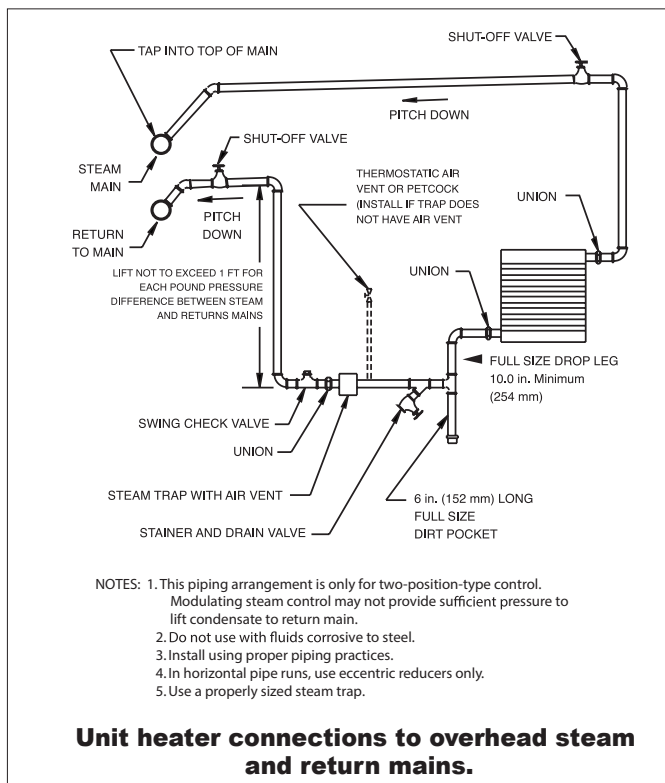
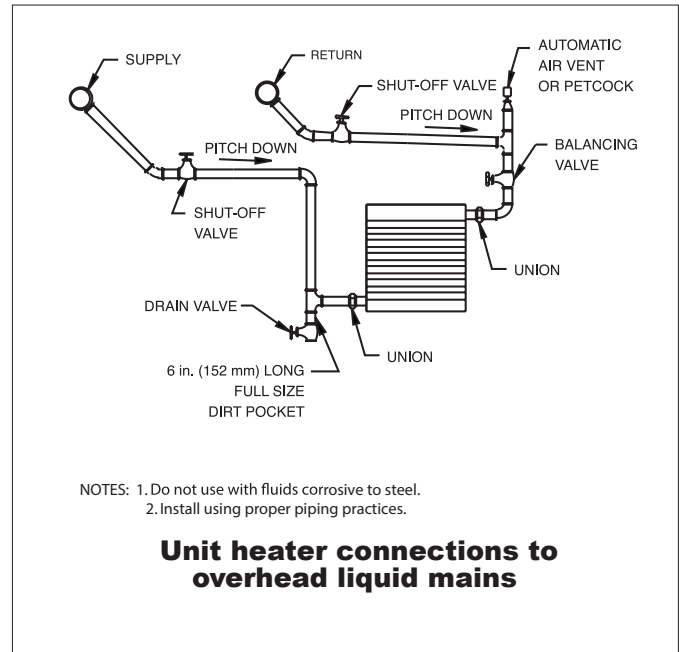
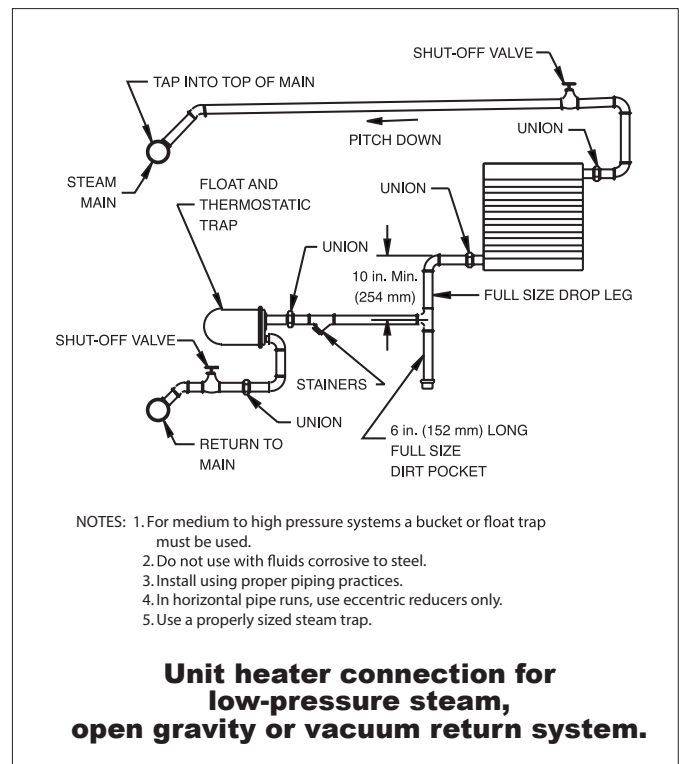

Figure 4
Figure 5
Figure 6
- 7.2 Refer to Figure 4 and Figure 5, page 25, and Figure 6, page 25 for typical piping applications.